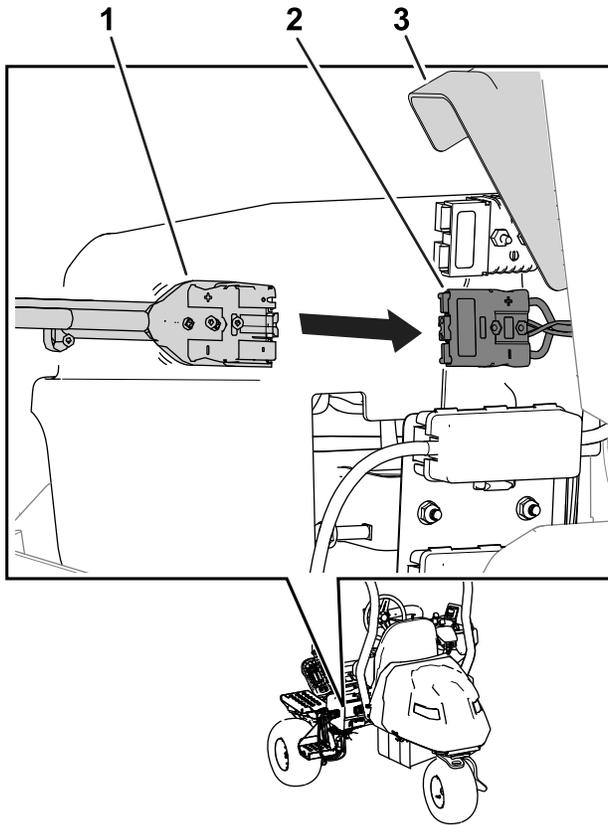

Figure 33
7. Raise the connector cover and slide the charger-output connector into the charger connector on the machine (Figure 33).